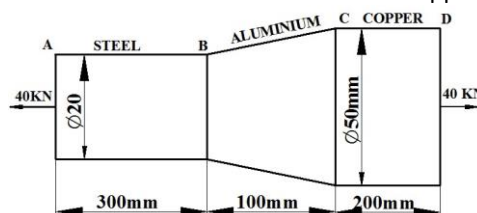

Figure 4
20. A stepped bar subjected to an external loading as shown in **Figure 4**. Calculate the change in the length of the bar. Take  $E=200 \text{ GPa}$  for Steel  $E=70 \text{ GPa}$  for Aluminum and  $E=100 \text{ GPa}$  for Copper (Dec 07/Jan 08)